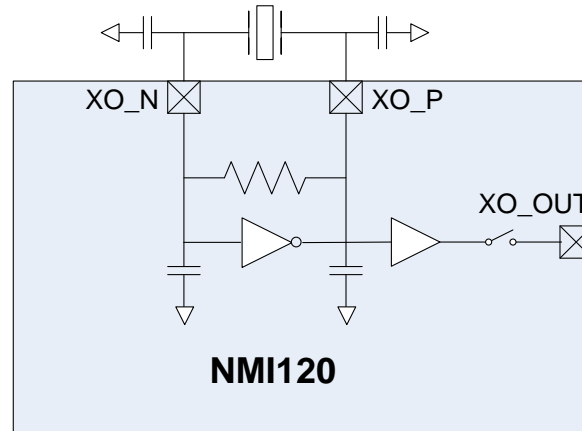

Figure 2: NMI120 XO connections to crystal
The block diagram in Figure 2 shows how the internal Crystal Oscillator (XO) is connected to the external crystal. The XO has 5pF internal capacitance on each terminal XO_P and XO_N.